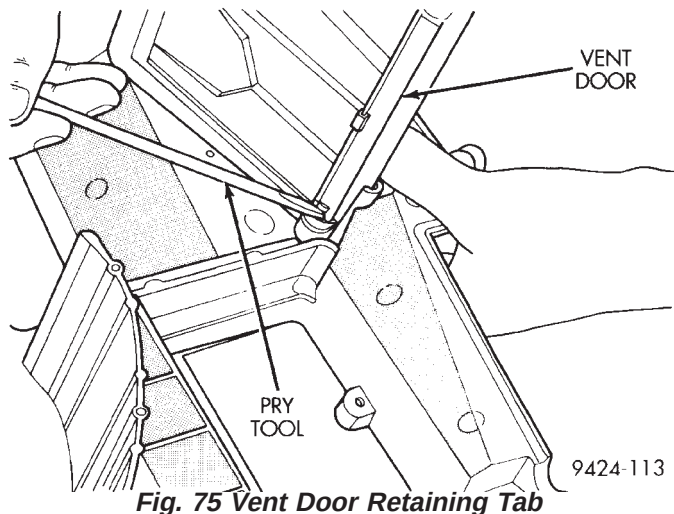
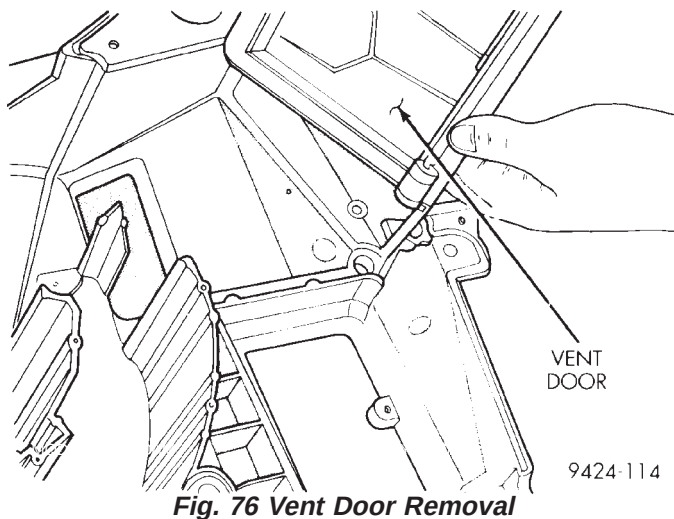

Fig. 75 Vent Door Retaining Tab
Fig. 76 Vent Door Removal
(21) Using a flat blade screwdriver, pinch in the retaining tab at the base of the vent door (Fig. 75). Pull up on door and remove from housing (Fig. 76).